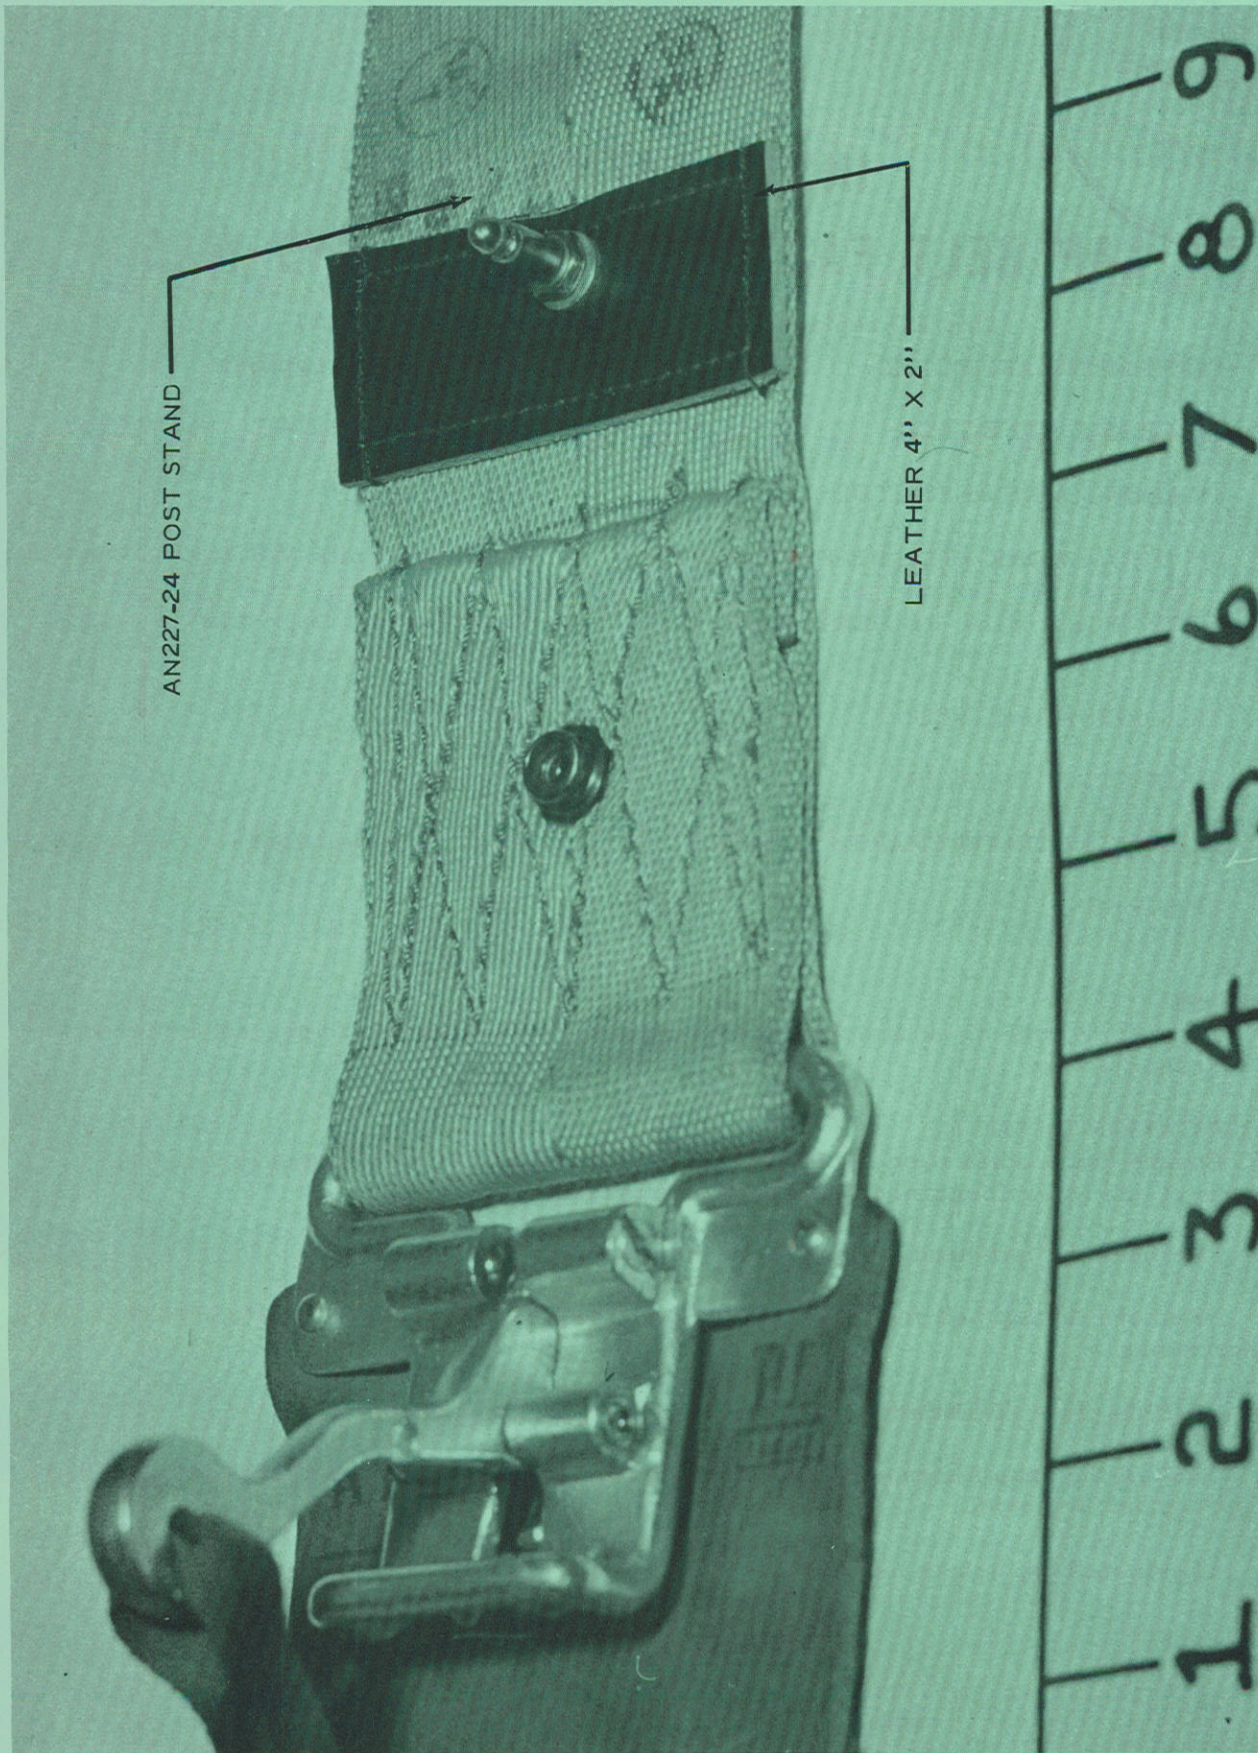

Figure 1 (Issue 1)
- (c) Affix a piece of leather 4" long by 2" wide as shown in Figure 1.
- (d) Install the snap fastener as shown in Figure 1 so that the post penetrates the leather and the lap belt material.